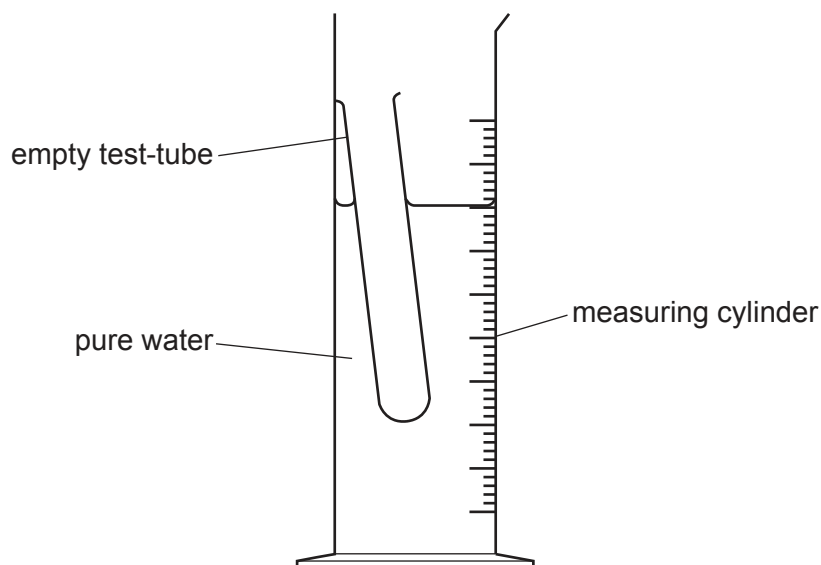

Fig. 4.1
- 4 Fig. 4.1 shows an empty test-tube, floating in a measuring cylinder containing pure water.